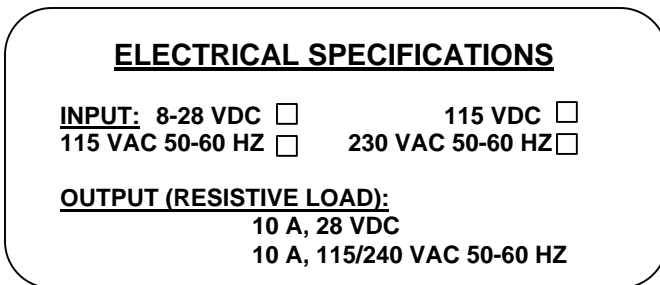

FIG. 1: ELECTRICAL SPECIFICATION PLATE
Make the cutouts as indicated in (Fig. 1). Insert the (4) panel mounting studs, finger tight, into the metal inserts located in the rear of the bezel. Insert the gauge through the panel aligning the panel mounting studs with the holes in the panel. Install the #8-32 nuts onto the studs and tighten securely.
The optional pipe mount kit is a "universal" pipe mounting kit which provides for mounting on a 2" vertical or horizontal pipe. See (Fig. 1) for details.
(Fig. 1)
Before installation carefully check the "Electrical Specifications" plate (See Fig. 1) on each instrument against the receiving paperwork and the intended application for the correct input and output. Make certain that the enclosure (NEMA 4 or NEMA 7) is appropriate for the area in which it is to be installed. Inspect for shipping damage and, if damaged, report it immediately. Verify when the unit is unpacked and in a vertical position that the pointer is on 0.
2. L.E.D.'S DO NOT COME ON WHEN POWER IS TURNED ON. Check wiring diagram (Fig. 1) and wiring to make certain that all connections are properly and securely made. Also check to make certain that the proper power input is being provided.